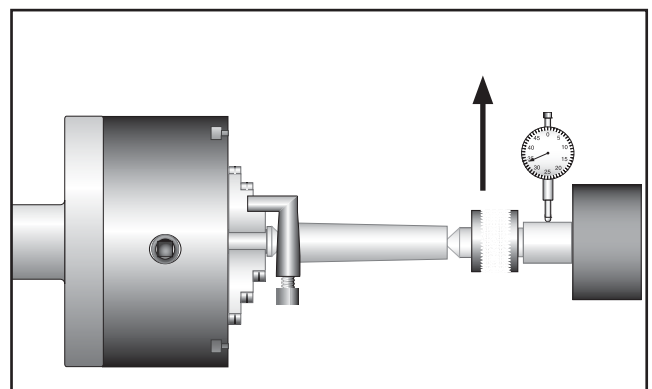

Figure 28. Tailstock adjustment option #2.
- If the diameter is thinner at the tailstock end, move the tailstock away from you half the distance of the diameter (**Figure 28**).